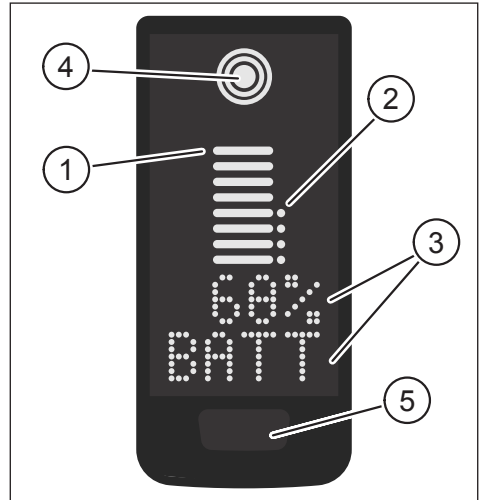
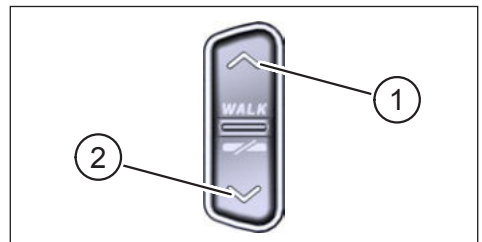

Fig. 1: Operation and indication components on Display
Fig. 2: Operation on the Remote
Pos. in Fig. 1	Description
Pos. in Fig. 2	Description
- ▶ Press and hold the button on the Display (pos. 5 in Fig. 1) and the DOWN button on the Remote (pos. 2 in Fig. 2) for at least 5 seconds.
- ▶ With a **double click** press on the button on the Display (pos. 5 in Fig. 1) you switch to the next screen view.